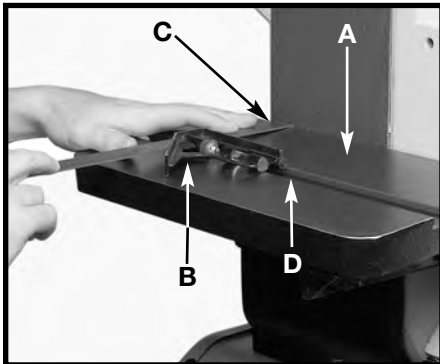

Fig. 27
1. Position the table (A) (Figs. 27 and 28) 90 degrees to the belt. Place a square (B) in the miter gauge slot with the blade (C) of the square touching the sanding belt. Check the opposite end of the belt to see if the miter gauge slot (D) is parallel to the belt.